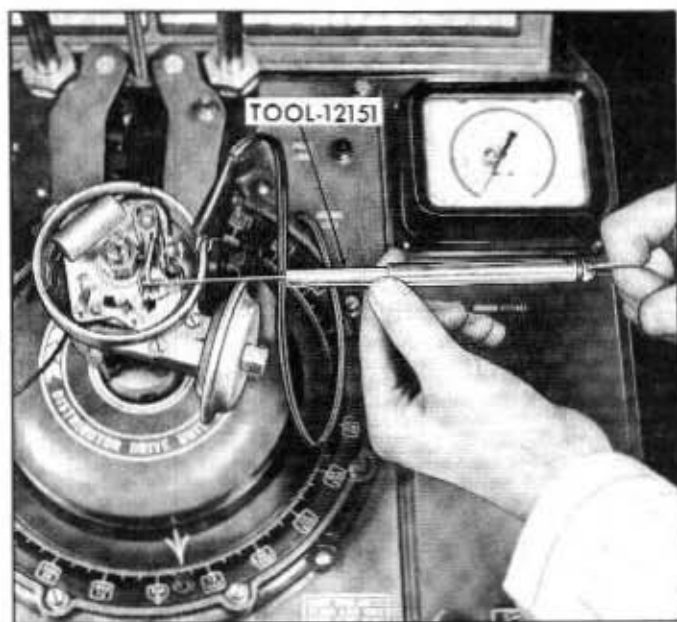

Fig. 10A-55—Breaker Point Spring Tension Test—(60C-7712)
6. Pull ring of Spring Tension Tester slowly until dwell meter pointer falls back, indicating the opening of the points. See figure 10A-55.